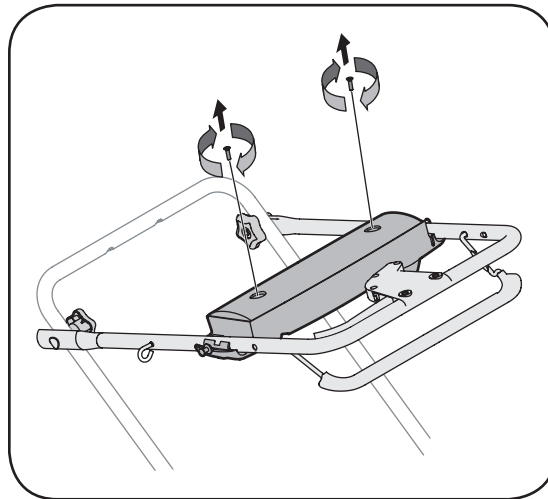

Figure 5-13: Fold down upper handle and remove two screws from back of housing.
1. Loosen round handle knobs securing upper and lower handles and carefully fold the upper handle down toward the lower handle as shown in Figure 5-13.
2. Remove the two screws securing battery cover to battery housing and place them to the side. See Figure 5-13.
1. Open the battery cover as described in **Replacing Battery**. Refer to Figure 5-13.